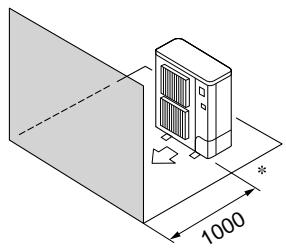

Fig. 2-6
④ Obstacles at front only (Fig. 2-6)